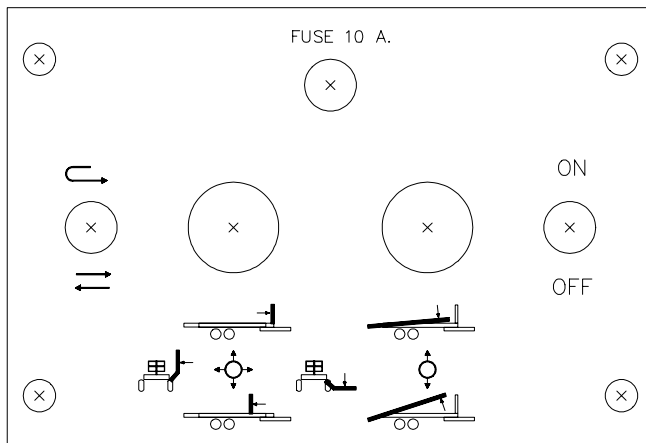

Figure 16
- 1) First familiarize yourself with the controls and their functions. (Figure 16)